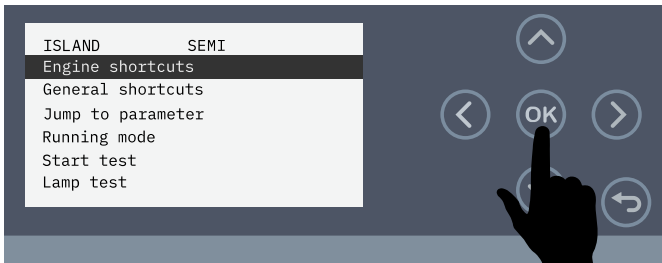

Figure 144. Select Engine Shortcuts
2. Make sure **Engine shortcuts** (Figure 144) is highlighted on the display, then press the **OK button**.
5. Make sure **Engine shortcuts** (Figure 144) is highlighted on the display, then press the **OK button**.